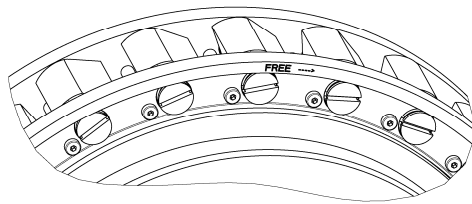

Figure 4: Clamp bodies “neutral position“
- Lift the inner race (2) including the cage (8) out of the outer race (1). Use appropriate lifting gear at the threaded hole of the inner race for this
- Place the inner race (2) including the cage (8) facing downwards the label "FREE" on an assembly table
- Secure (see Fig. 4 and 5) the clamp bodies in lift-off position (against the spring force) using an O-ring / cable connector as an assembly aid
- Insert the inner race (2) with cage (8) into the outer race (1) until half of the clamp body is covered